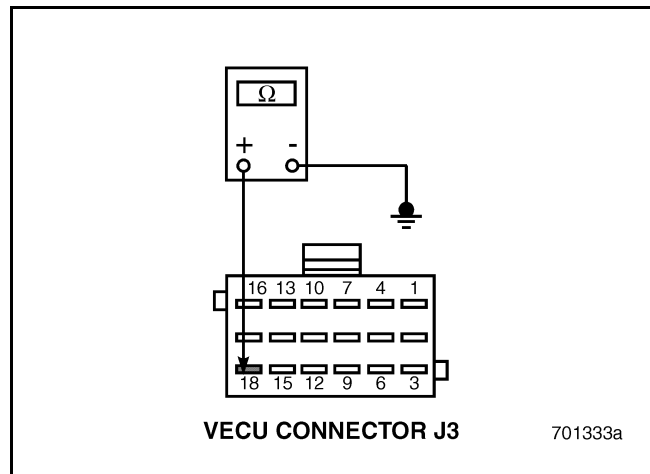

Figure 714
3. Check for continuity between VECU connector J3 pin 18 and a good ground (see Figure 714).